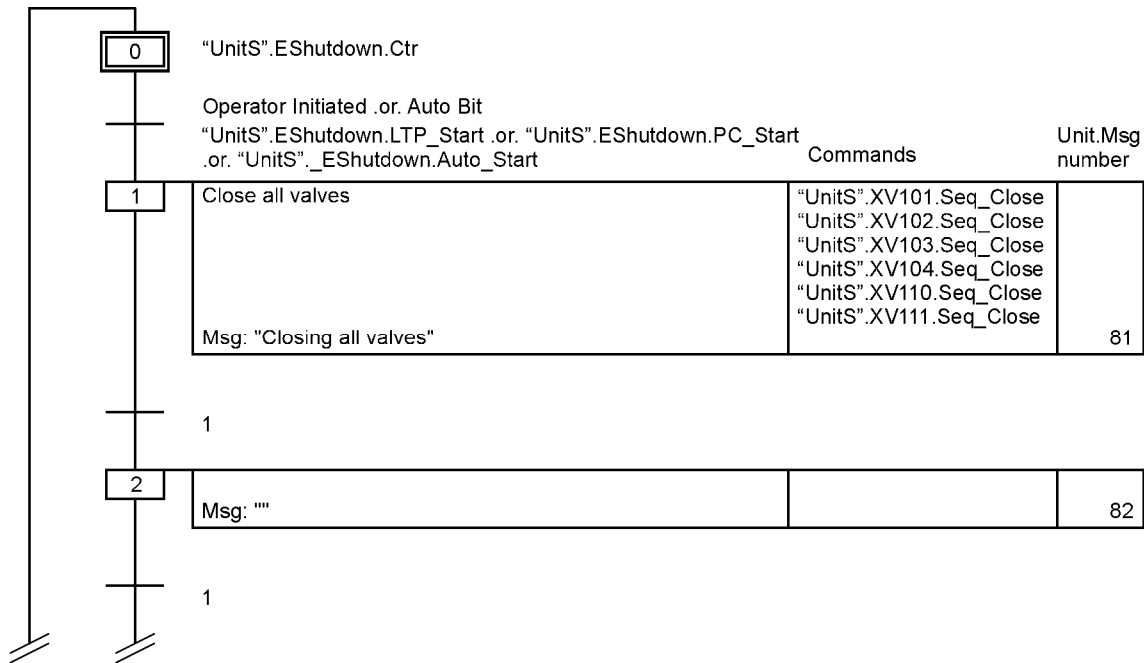

Figure 2. Multiple commands for a step.
- The second part contains the commands (open/close valve, start/stop motor, etc.) Each different command occupies one row. The case of multiple commands for a step is shown in Figure 2.
When multiple commands must be executed on a step, the command box is expanded as shown in Figure 2. Note that the individual commands are shown on successive rows.